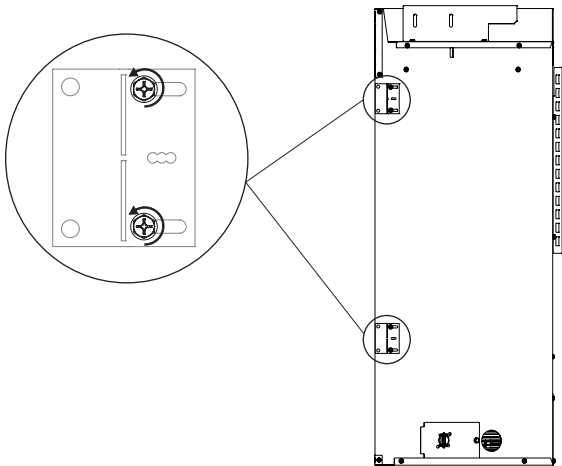

Figure 34
5. Loosen but do not remove the eight screws securing the nailing flanges to the firebox. **See Figure 34.**